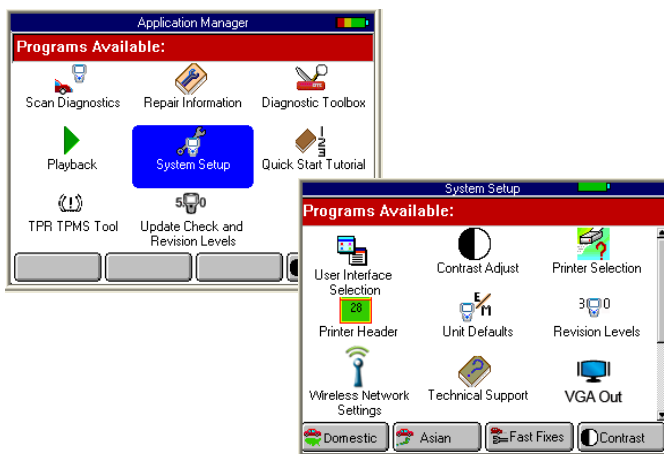

Figure 17.1: Application Manager and System Setup Screens
- 1 Follow the steps in Basic Procedure to display the System Setup screen (see Figure 17.1).
- 1 Follow the steps in Basic Procedure on page 72 to display the System Setup screen (see Figure 17.1).